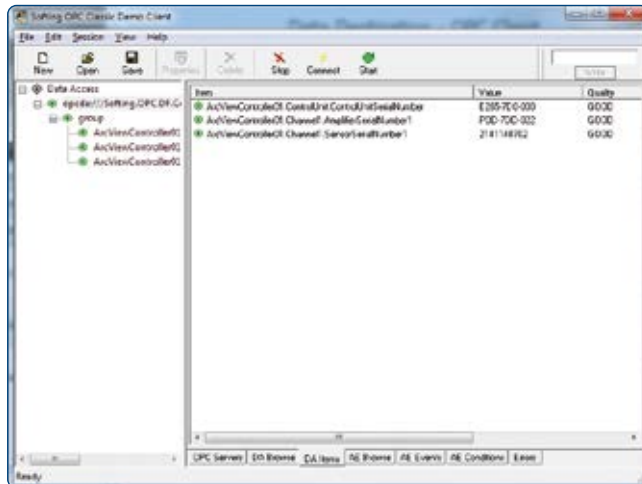

Figure 84: Display of the selected DA Item values.
19. Display the selected DA Item values in the Tab DA Items (Figure 84).